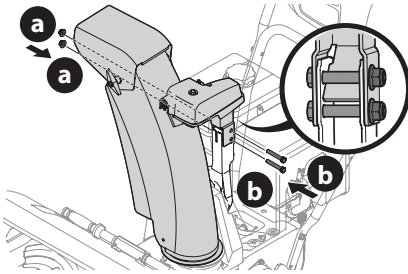

Figure 22
3. Secure chute control head to chute support bracket with lock nuts (a) and hex screws (b) removed in Step 1 (Figure 22).